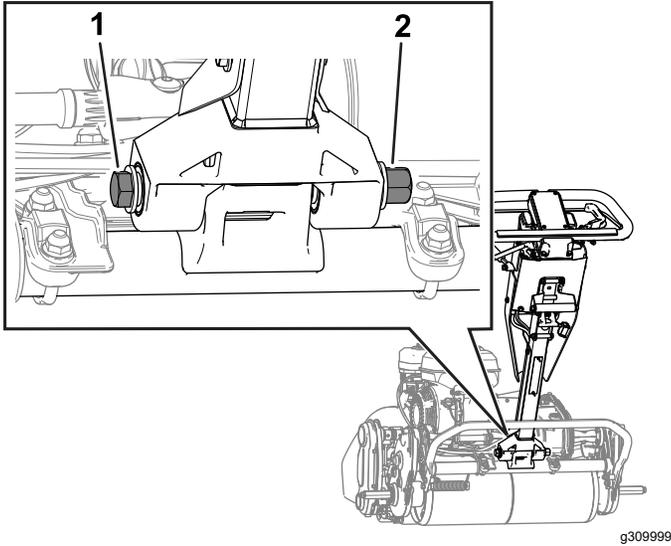

Figure 37
2. Loosen the bolt and nut as shown in Figure 37.